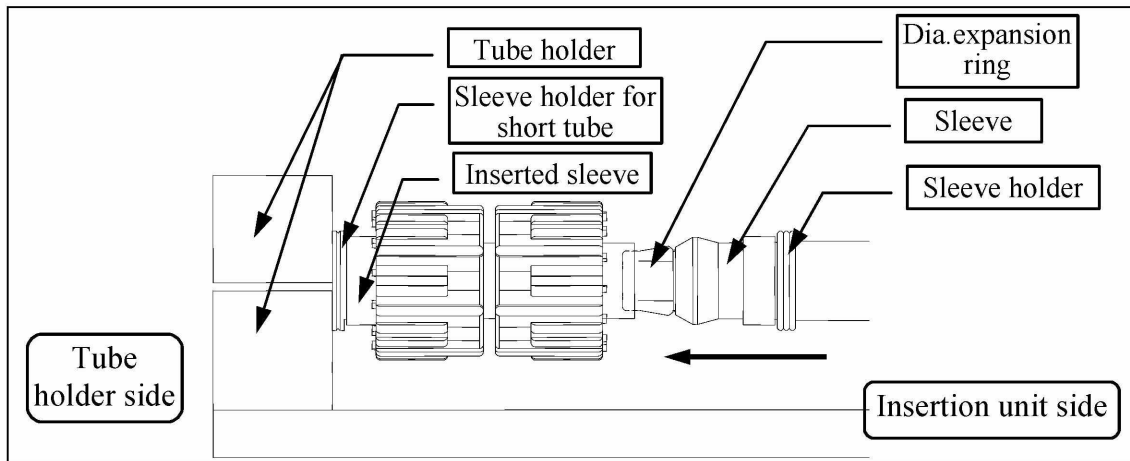

Fig. 27 - Parts arrangement (6, 8, W2, W2Y, W3Y)
- Loosen the knob located at the bottom of the tube holder, position the tube holder so as to allow the arrangement shown in Fig.27, and then retighten the knob to secure the unit.
- Put the union nuts on the tube, set the inserted sleeve in sleeve holder for short tube, and then fix the sleeve holder to the $\phi 6$ portion of the tube holder (see Fig.27 and refer to Table for applicable parts).